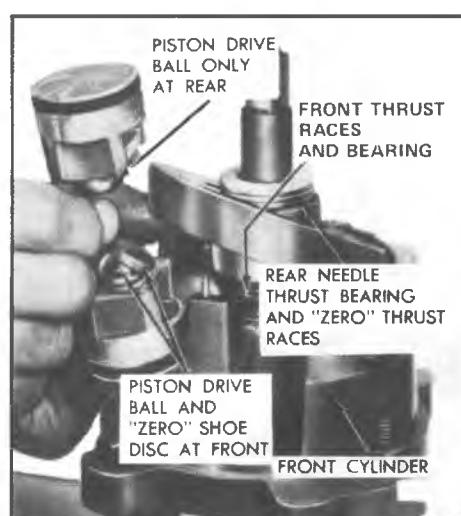

Fig. 38--Installing Piston During Gaging Operation
10. Position piston over No. 1 cylinder bore (notched end of piston being on bottom and piston straddling axial plate) and lower the shaft to allow piston to drop into its bore (Fig. 38).